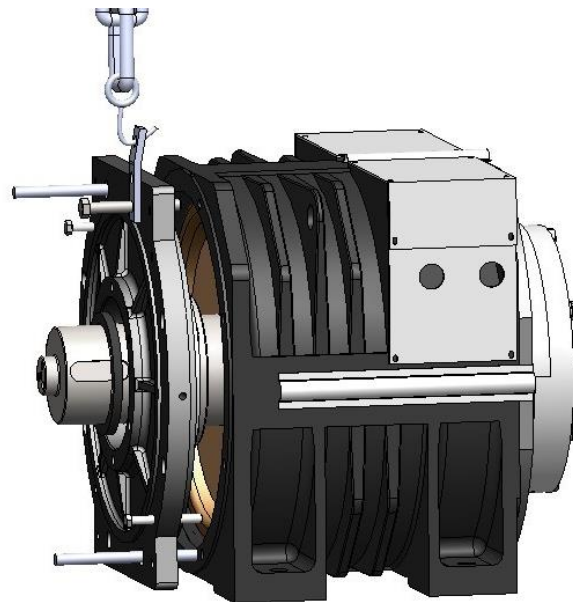

Figure 77: Front cover hoisting
8. Hoist out the Front cover with hoisting equipment, take off the threaded rod. See Figure 77.